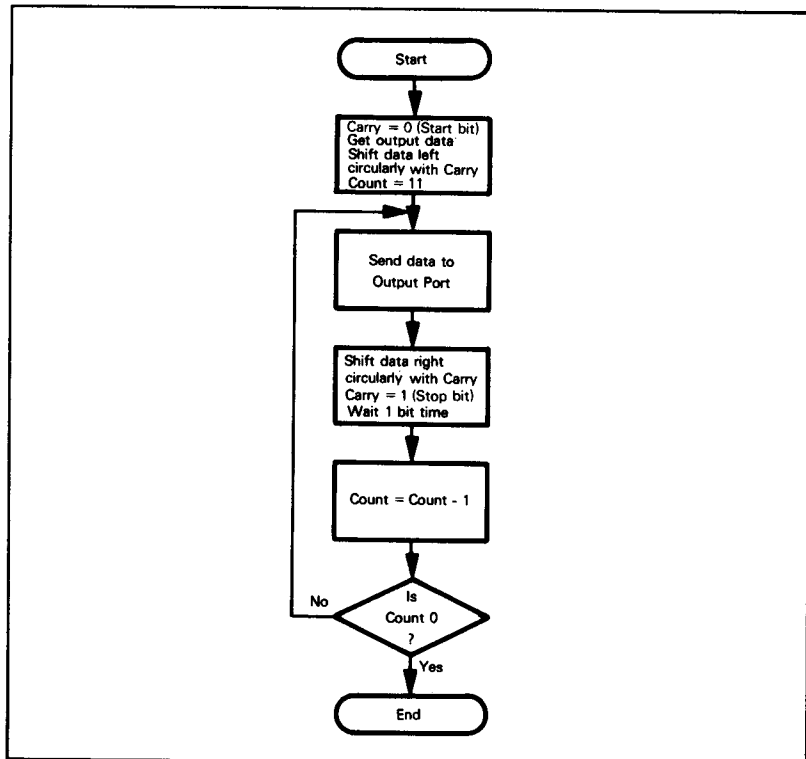

Figure 11-28. Flowchart for Transmit Procedure
Transmit (flowcharted in Figure 11-28)
**Task:** Transmit data to a teletypewriter through bit 0 of a PIA data port (see procedure in Figure 11-28). The data is in memory location 0040.